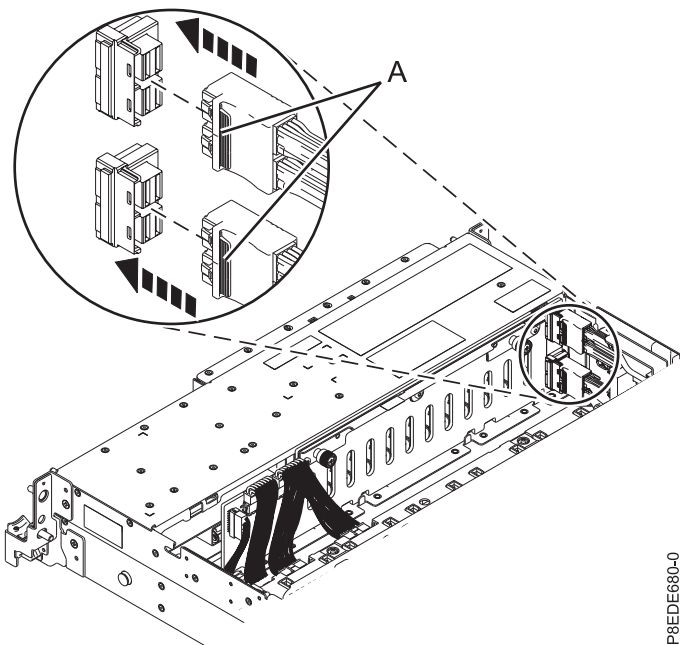

Figure 98. Reconnecting the front SAS cables
35. Reconnect the front SAS cables to the disk drive backplane as shown in Figure 98. Push the connector in until the connector latch clicks.